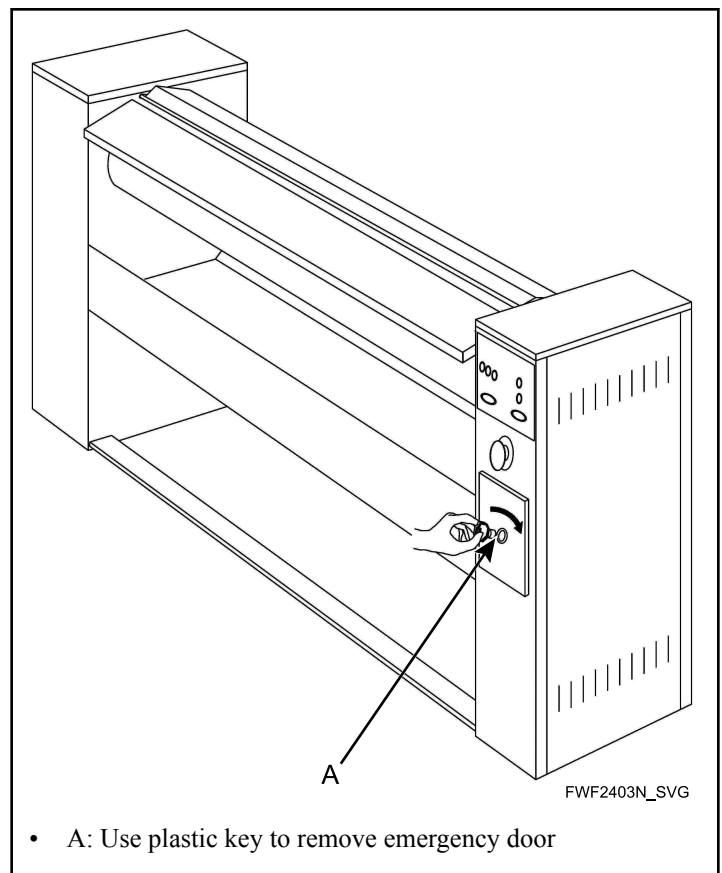

Figure 16
2. Use the plastic key provided and remove the emergency door (A) (refer to *Figure 16*).